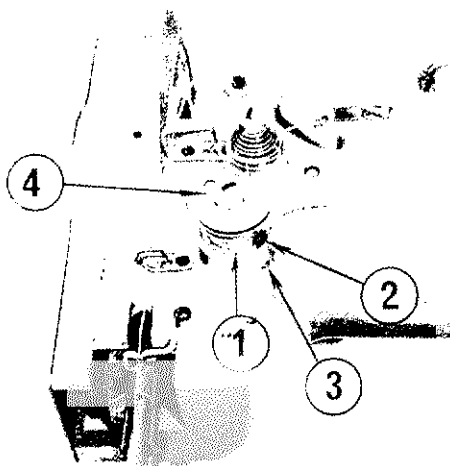

Fig. 16
III. HOW TO ADJUST THE MACHINE (Fig. 16)
To move the thread take-up spring adjusting plate (Fig. 16 ①) in order to regulate the movement of the thread take-up spring, loosen the screw ②, Fig. 16. To increase the movement of the thread take-up spring, move this adjusting plate toward right. To make the movement of the spring less, move this adjusting plate toward left. After adjusting, be sure to tighten the screw.
To strengthen the tension of the thread take-up spring, loosen the thread controller stud set screw ③, Fig. 16 in the arm under the thread controller disc, insert a screw driver to the tip of the groove of the thread tension post (Fig. 16 ④) and turn slowly to left. To weaken the tension, turn the screw driver to right. After the adjustment, re-tighten the screw.